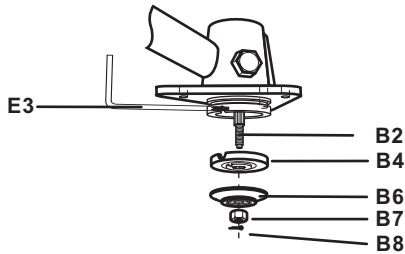

Fig. 4
4. Pull the safety pin (B8) out, loosen the safety nut (B7) and take it off together with the locking flange (B6) and backing flange (B4) (Fig.4)